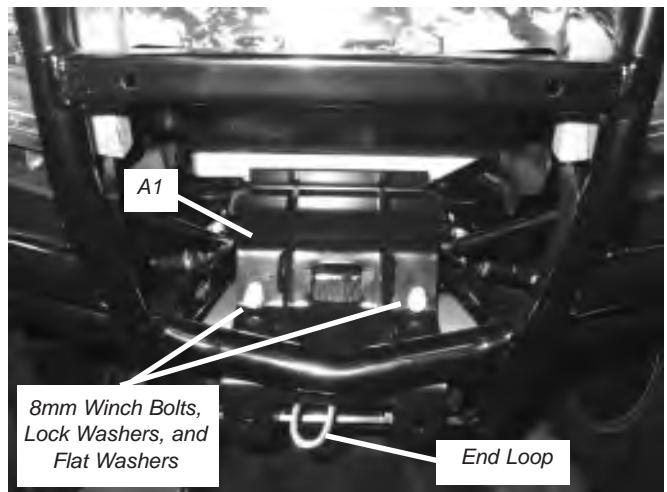

Figure 11 Upper Mounting Bracket Installation
11. Place the upper mounting bracket (A1) onto the vehicle frame, figure 11. Fasten the upper mounting bracket to the winch with two 8mm-1.25 x 20mm bolts and lock washers supplied with the winch. Place a provided 8mm flat washer (B2) between each lock washer and the upper mounting bracket. Do not tighten at this time.
12. Route the wire rope between the upper and lower mounting brackets (A1) & (A2), so that the end loop is visible from the front, figure 11.